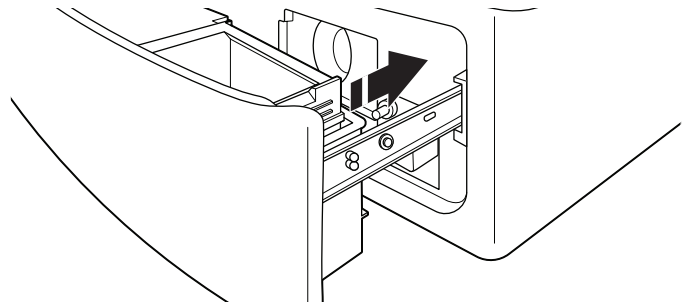

Figure 6
6. Replace and close the dispenser drawer. Make sure to insert both rails simultaneously when replacing the drawer. You will hear a clicking sound that indicates the rails have engaged (see Figure 6). To ensure proper placement of the drawer, pull out fully. The drawer should be fully engaged and the rails locked in place. Make sure the drain hose is secured in the hose clip and tucked underneath the cutout.